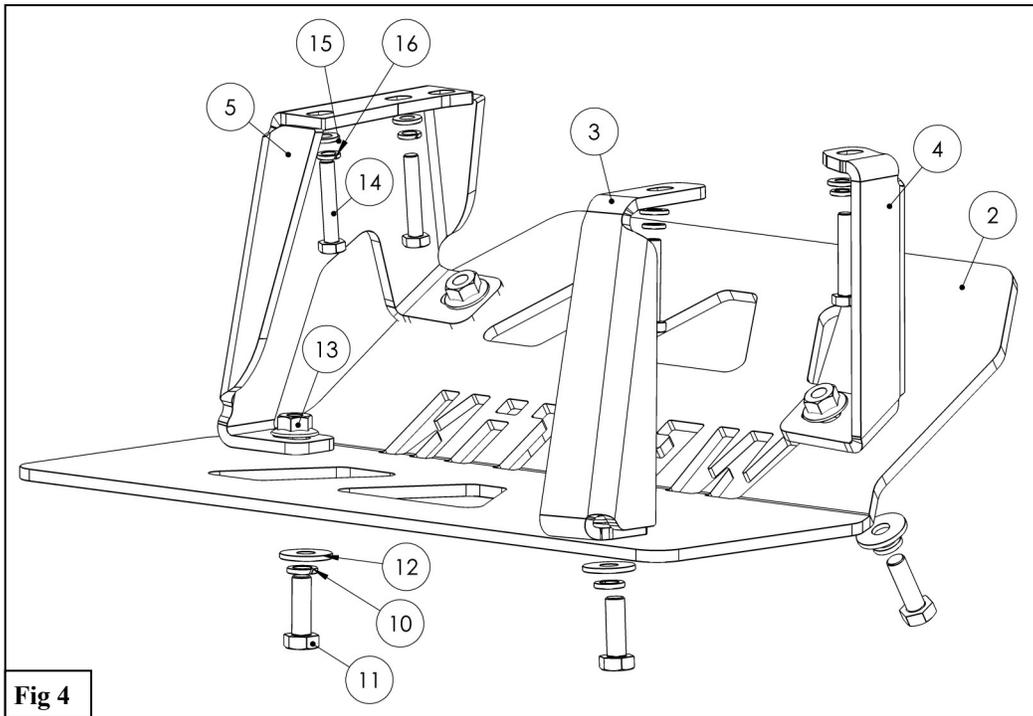

Fig 4
5. Install the Front Skid Plate Section (2) to the previously installed brackets using the supplied M8 Hardware. See **Figure 4**.